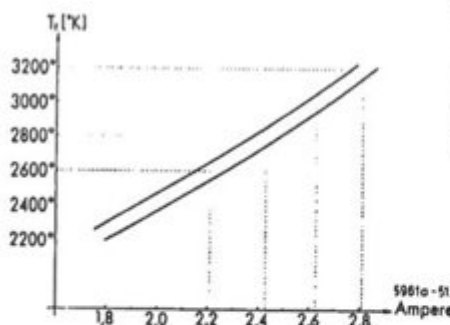

Fig. 14
2) 6 v 15 W lamp attachment. The colour temperatures of this filament lamp are matched for artificial-light films. The curve shown in Fig. 14 illustrates the dependence of the colour temperature on the current in-